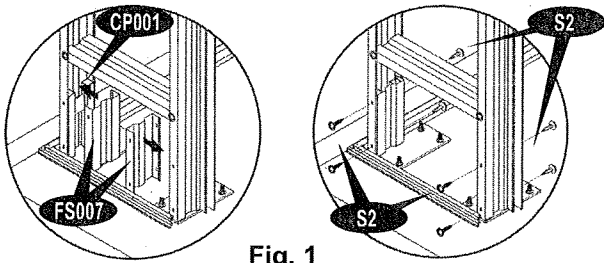

Fig. 1
1. Place assembled front structure to the column support footings (CP001 & CP002). Insert column support bottom (FS007) and secure with (S2) screws all together. Repeat step to place the back structure. See fig. 1